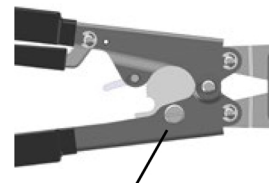

Fig. 10: Eccentric Stud
3. Using a straight blade screwdriver, rotate eccentric stud (Fig. 10) counter-clockwise until jaws contact the GO/NO-GO Gauge before the NO-GO area of the Gauge.